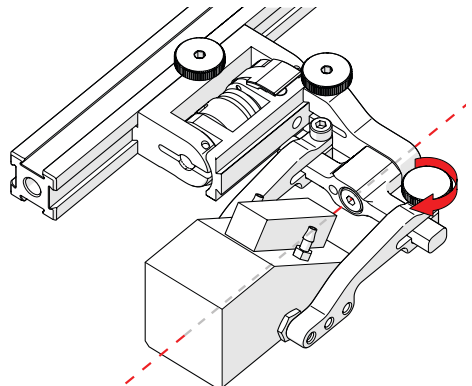

Fig. 34 - Pinch wedge with arm
9. Tighten probe holder arm adjustment knob (Fig. 34).